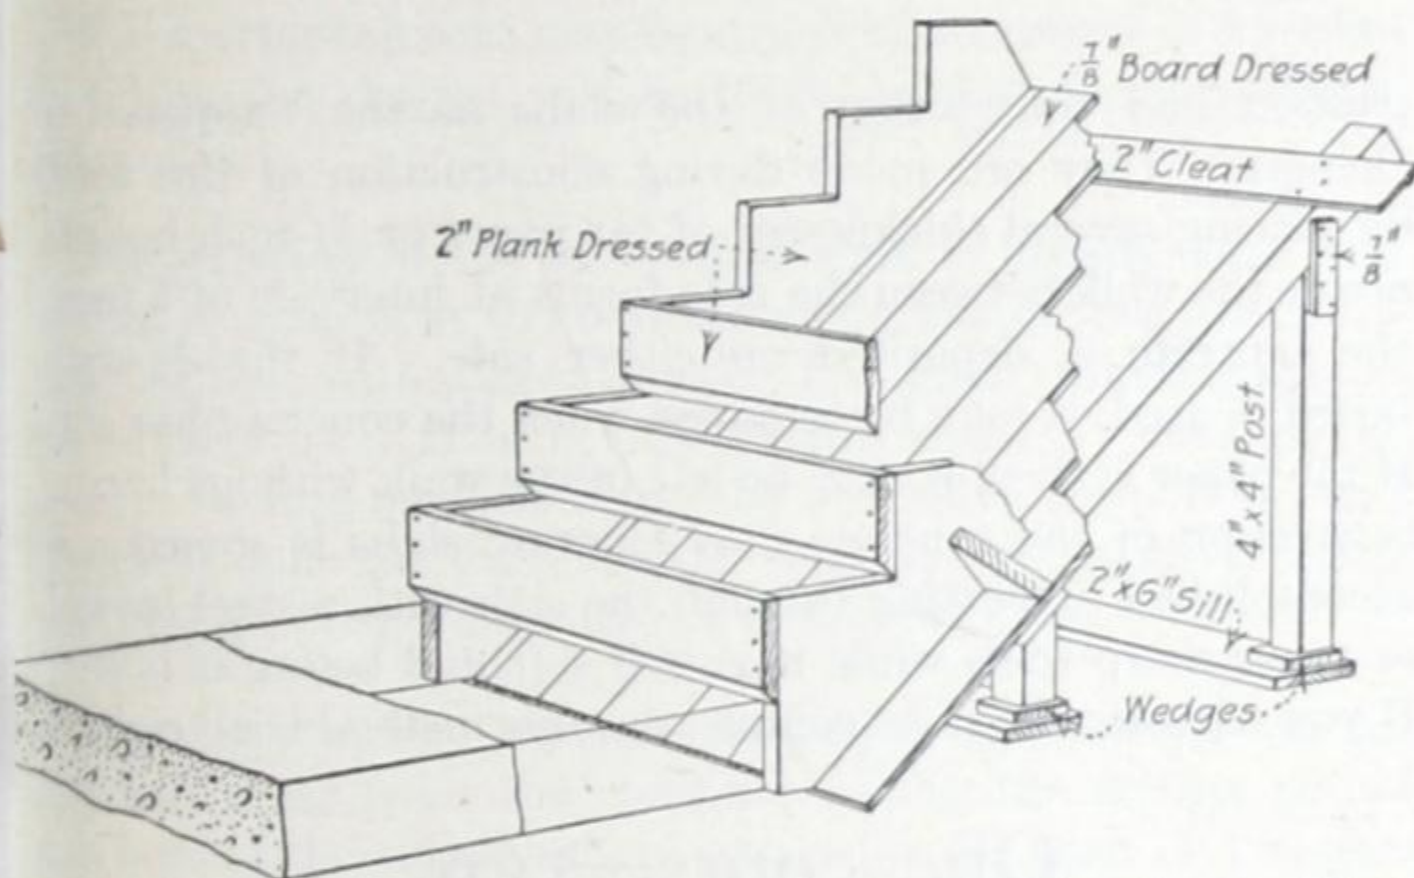

Fig. 41—Forms for self-supporting concrete steps. Step slab reinforced as shown in Fig. 42.
*Forms*—The forms required are shown in Figure 41. They consist of a panel of  $\frac{3}{8}$ -inch tongued-and-grooved sheathing, cleated together about 12 to 14 inches wider each side than the steps. This panel is supported on 4-by-4's running lengthwise of the steps. These are supported on 4-by-4-inch bents or posts, as shown in the drawing. Two-inch planks, cut to the shape of the steps, constitute the side forms. They are nailed to the panels and braced on the outside. Riser boards, 2-by-8-inches are nailed upright to form face of steps.